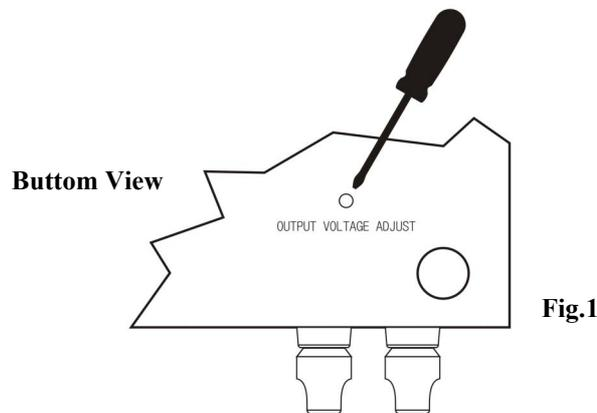

Fig.1
2. Turn the power supply over with the bottom up and connect a digital multi-meter(DMM) with at least 2 decimal read out to the main output terminal (4).
3. Locate the fine tune access hole (8) on the bottom as shown in Fig.1.
4. Insert a slim flat head screw driver to get to the trimmer as shown in Fig.1.